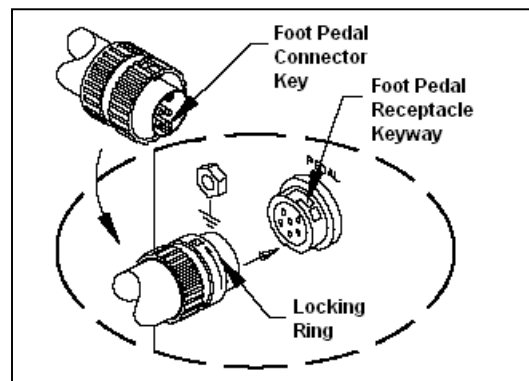

Figure 3b
8. If you have purchased an optional foot pedal, insert the connector plug into the PEDAL Receptacle on the rear panel of the power source. See Fig. 3b. Install additional handpieces and accessories as necessary.